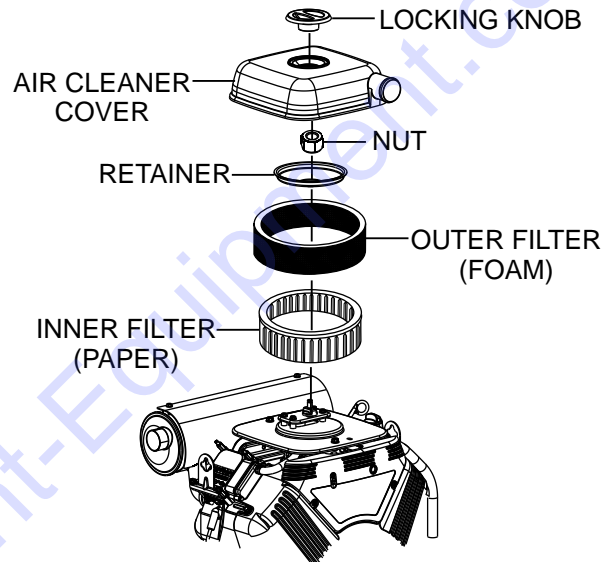

Figure 17. Air Filter Components
1. Unscrew the latch locking knob (Figure 17) located on top of the air cleaner cover, and remove cover.